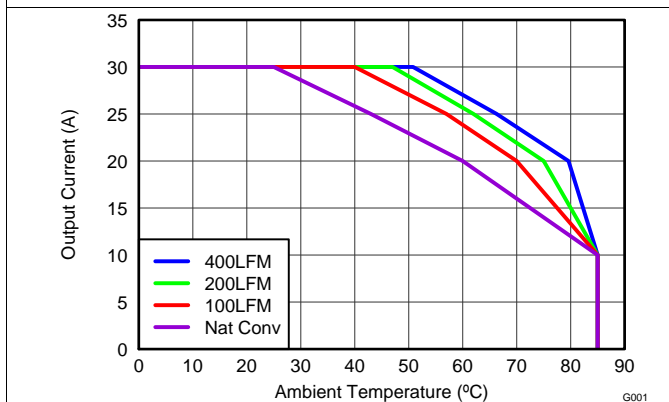
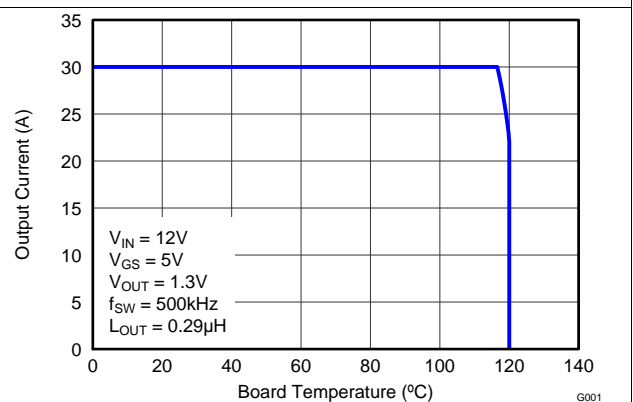

Figure 3. Safe Operating Area – PCB Horizontal Mount
Figure 4. Typical Safe Operating Area
$T_J = 125^{\circ}\text{C}$ , unless stated otherwise. For Figure 3 and Figure 4, the Typical Power Block System Characteristic curves are based on measurements made on a PCB design with dimensions of 4.0 inches (W) x 3.5 inches (L) x 0.062 inch (H) and 6 copper layers of 1 oz. copper thickness. See Application and Implementation for detailed explanation.
$T_J = 125^\circ\text{C}$ , unless stated otherwise. For Figure 3 and Figure 4, the Typical Power Block System Characteristic curves are based on measurements made on a PCB design with dimensions of 4.0 inches (W) x 3.5 inches (L) x 0.062 inch (H) and 6 copper layers of 1 oz. copper thickness. See Application and Implementation for detailed explanation.
The SOA curves in the CSD87384M data sheet provide guidance on the temperature boundaries within an operating system by incorporating the thermal resistance and system power loss. Figure 3 to Figure 4 outline the temperature and airflow conditions required for a given load current. The area under the curve dictates the safe operating area. All the curves are based on measurements made on a PCB design with dimensions of 4 inches (W) × 3.5 inches (L) × 0.062 inch (T) and 6 copper layers of 1 oz. copper thickness.